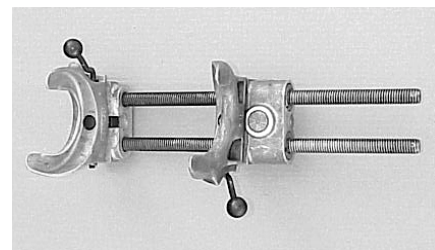

Figure 7
3) ☒ Compress a new coil spring (615) to 16" in length. Use a quality spring compressor like the one shown in figure 7.